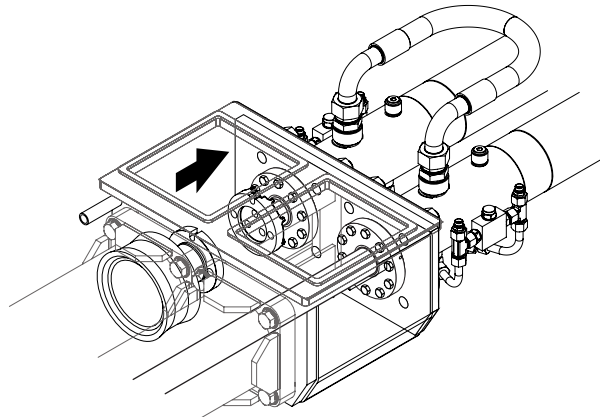

Figure 26
5. Restart the engine and clear all E-stop requests. Press the concrete pump forward or reverse button and ram change mode button simultaneously. Slowly retract the rod again (Figure 26), until there is room to install the spacer coupling.